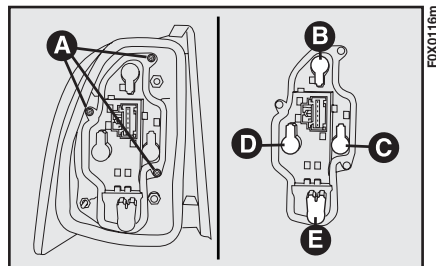

fig. 136
- disconnect the connector then undo the screws A-fig. 136 to access the bulbs to be replaced;
The bulbs fig. 136 are: